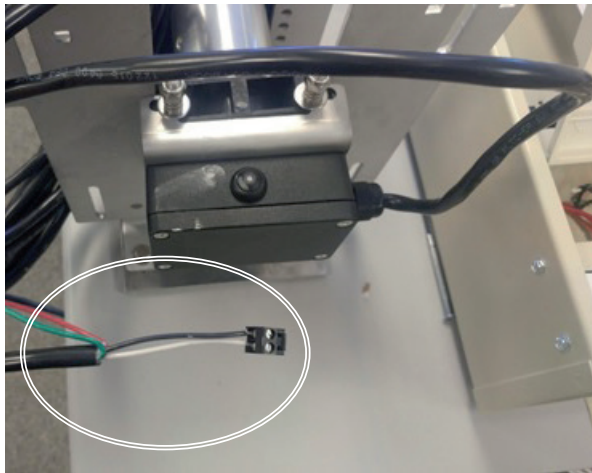

Figure 1. Rotary Encoder 2-wire connector
2. Connect the black and white wires from the pool cover controller into one of the two Pool Cover digital inputs. See Figure 1.